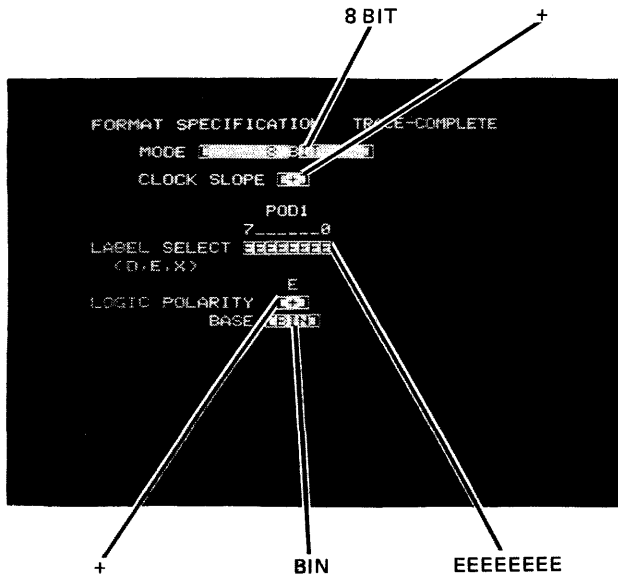

Figure 5-2. Format Specification for Filter Width Adjustment
5-12. FILTER WIDTH ADJUSTMENT. (See figures 5-2 through 5-6, and schematic 5A.)
- b. Set up format specification according to figure 5-2.